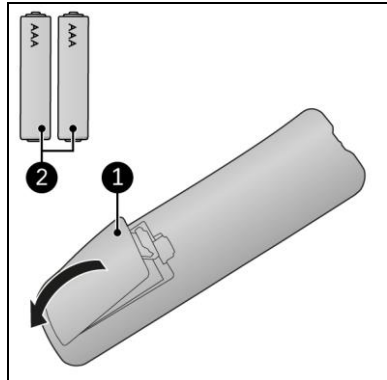

Figure 12
1. Remove the cover (Figure 12, pos. 1).
3. Insert two batteries (AAA 1.5 V) (Figure 12, pos. 2) as indicated in the battery compartment. Make sure to insert the batteries correctly.